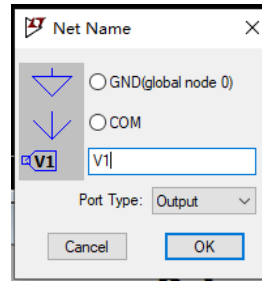
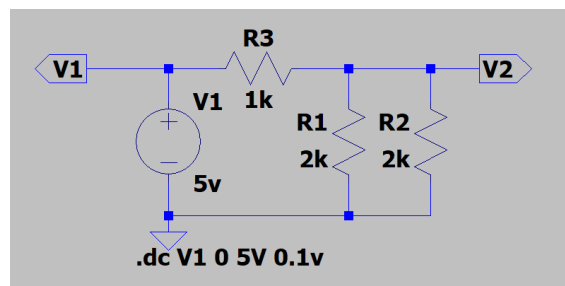

Figure 10: Label Net setting (Output)
Figure 11: Schematic after add output label
- d) Close with OK. Add two output labels. Click Edit->Label Net, Fill in the setting like show in Figure 10. Connect V1 Output with the positive end of Voltage source. Repeat the step to add V2 Output and connect with the node between R_1 and R_3 . After add the node the schematic should look like Figure 11.